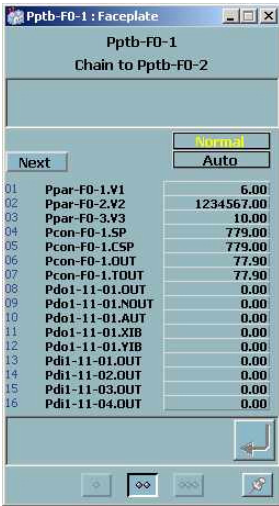

Figure 195. PTB Module
**Pointer Table (PTB).** The Pointer Table module faceplate represents a table of pointers function block in an 800xA for DCI controller. The PTB module reports up to 16 pointer values and pointer names for specified attributes, and alarm status used for display in the faceplate. Figure 195 shows the layout of the PTB normal sized faceplate and its attributes.